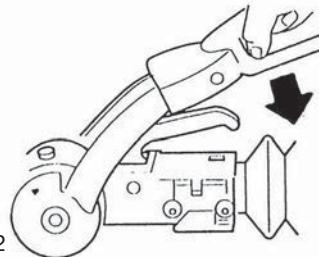

Fig. 2
- Press the red stabilising lever down. The AKS is now ready for the road. **(Fig. 2)**
- Do not attach the clip directly to the designated point (**Fig 2**). The clip is not sufficiently strong enough for use in this way.